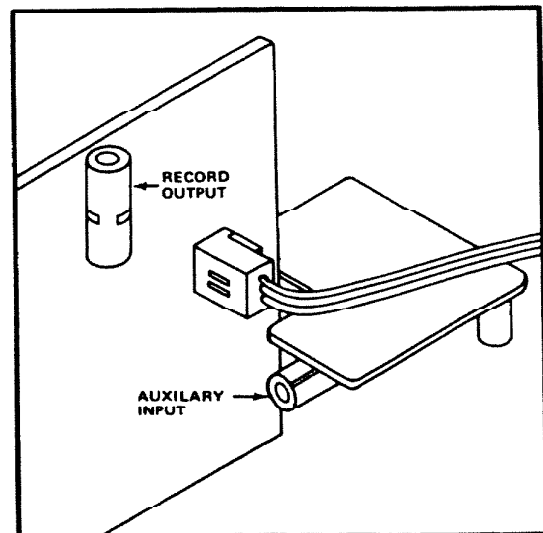

FIGURE 15
1. To connect an optional Record Changer or Cassette Player/Recorder, locate the **AUXILIARY INPUT** and **RECORD OUTPUT** jacks on the master panel. See Figure 15.
2. To play the phonograph or tape player over the intercom system, insert the accessory's output plug into the master panel's **AUXILIARY INPUT** jack. See Figure 15.
3. To use the radio as a program source for recording on the Cassette Record/Player, insert the player's input plug into the master panel's **RECORD OUTPUT** jack. See Figure 15.